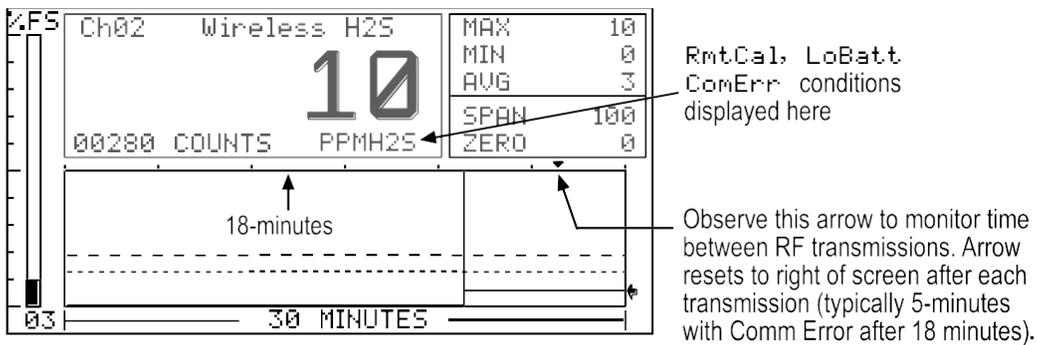

Figure 7.4
- **Communications Error** – Each channel’s 30-minute trend screens (Figure 7.4) are very useful for diagnosing wireless problems since it indicates amount of time since the most recent transmission was received. The down arrow on top of the